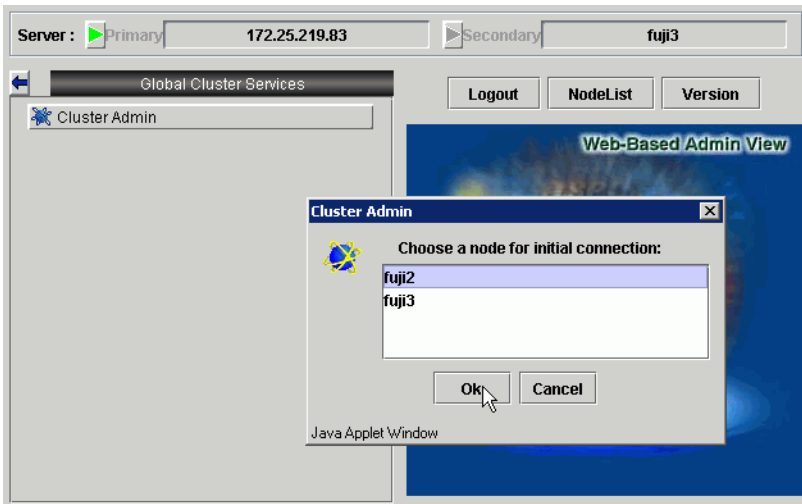

Figure 67: Cluster menu
3. The *Choose a node for initial connection* screen appears (Figure 67). Select a node, and click on *OK*. The main Cluster Admin screen appears.